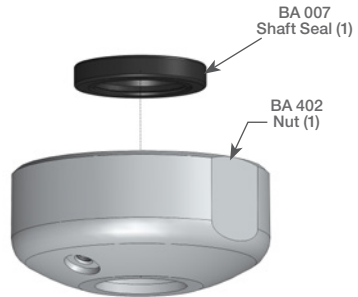

Figure 3: For Step 4
4. Inspect Shaft Seal (BA 007) and remove from Nut if damaged (see Figure 3).